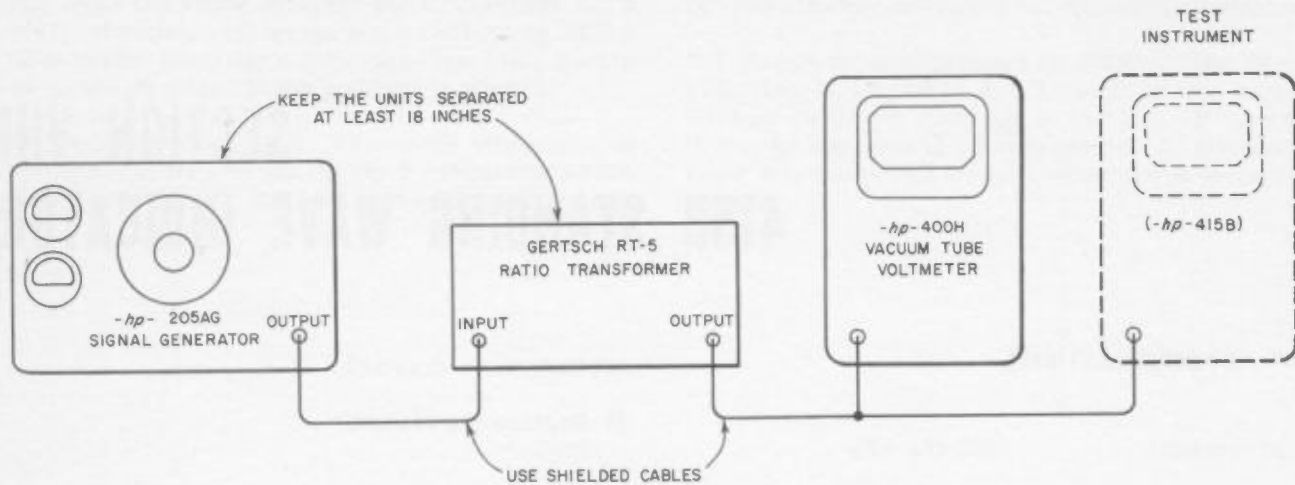

Figure 8-1. 415B Standing Wave Indicator Sensitivity, Ranging, and Tracking Calibration
- 1) Connect the equipment as shown in Figure 8-1.
- 1) Use the equipment setup shown in Figure 8-1, but omit the 400H Voltmeter.
1) Connect the equipment as shown in Figure 8-1 but omit the 400H Voltmeter.